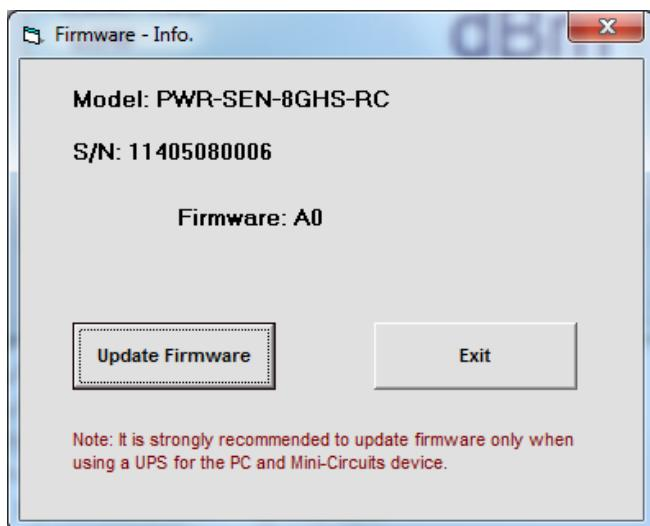

Figure 3.7.4:
3.7.4 Click on the '(fw)' indicator, this will cause the firmware - info window to open (See **Fig. 3.7.4**). The 'Firmware' listed is the version of the firmware installed in your smart power meter. Click on "Update Firmware" to select a new firmware version to install or click 'Exit' to close the firmware – info window.